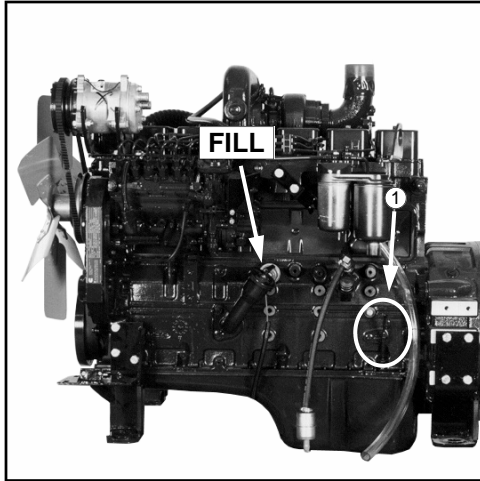

FIG 7.1
**OIL LEVEL** - The engine oil level dipstick is located on the left-hand side of the diesel engine (fig. 7.1, item 1) and the right-hand side of the gas engine (fig. 7.2). Never operate the engine with the oil level below the "L" (low) mark or above the "H" (high) mark. Wait at least five minutes after shutting off the engine to check the oil level; this allows time for the oil to drain to the oil pan. Check the engine oil level daily.